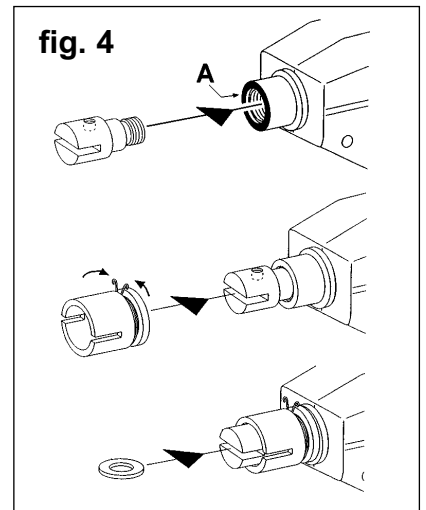

fig. 4
A nail or washer, depending on accessibility, is welded to damaged panel to enable the panel to be pulled back into shape with the slide hammer. See figs. 5 & 6. The washer electrode (fig.1.6) has a magnet to hold the washer in place prior to welding and should be used in conjunction with extension electrode (fig.1.8 & fig.4). When reshaping is completed, cut and grind off nail or washer to give a smooth finish.
- 5.1.2. Attach appropriate electrode for task (see Section 4). If using either of electrodes fig.1.6 and 7, also fit extension electrode fig.1.8, see fig. 4.
IMPORTANT! If the electrode, electrode holder, carrier contact face (fig. 4.A) and panel are not clean, dry and free from paint, grease, rust etc. the weld will be poor and the welder may overheat, causing irreparable damage to the casings.